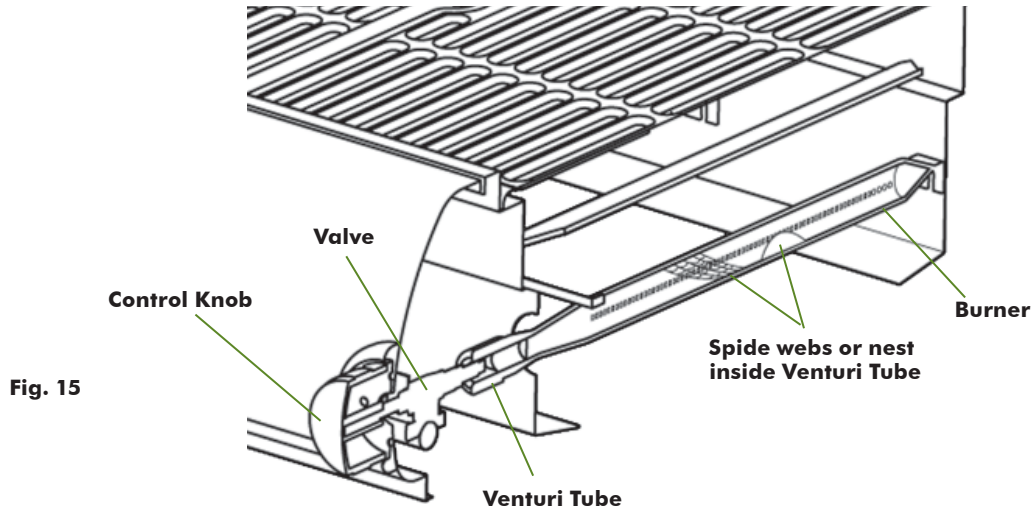

Fig. 15
- Inspect and clean Burner/Venturi Tubes for insects or insect nests. Spiders or small insects can build nests, webs, and lay eggs in the grill's Venturi Tubes, (Fig 15) obstructing the flow of gas to the Burner. The backed-up gas can ignite behind the Control Panel and cause a fire beneath the grill, posing the risk of death or serious bodily injury. This is known as a "flashback."